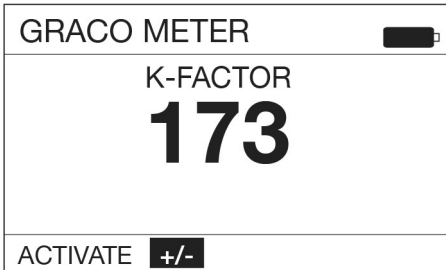

FIG. 27
- Use the RIGHT ARROW button on the keypad to highlight +/- and press the center ENTER button on the keypad to select the +/- option (FIG. 27).